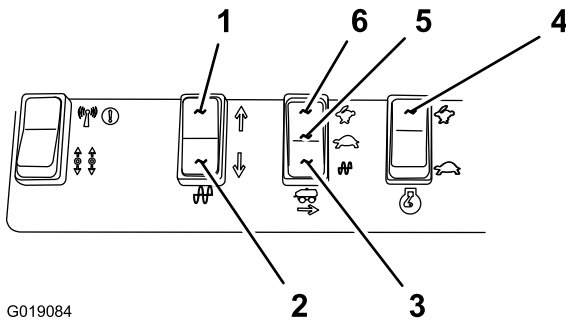

Figure 44
1. Select the engine-speed switch to the fast, engine-speed position (Figure 44).
- Start the vibration function in the forward direction by pressing the vibration direction switch forward (Figure 44).
- Start the vibration function in the reverse direction by pressing the vibration direction switch backward (Figure 44)